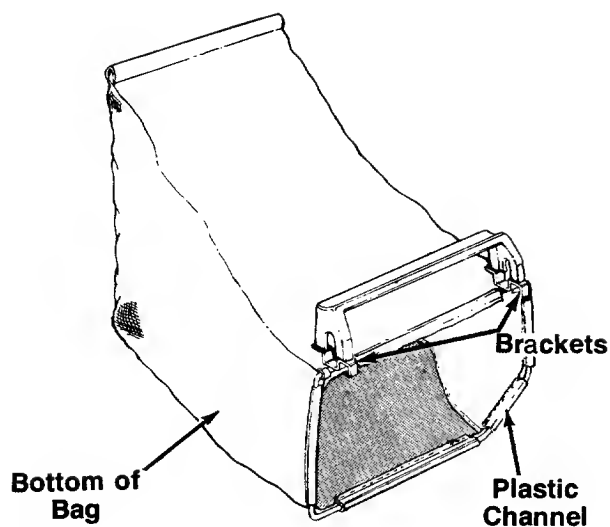

FIGURE 13.
1. Place bag over frame (black plastic side is the bottom of bag). Handle on frame goes to the top of bag. Brackets hook toward the front. See figure 13.
2. Secure bag to frame by slipping plastic channels on bag over frame. See figure 13.